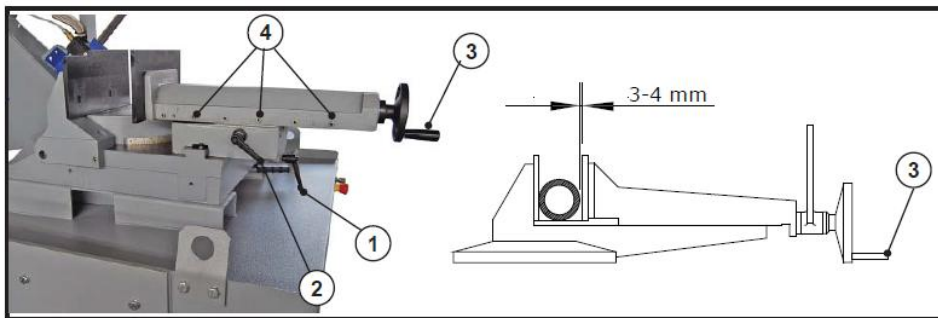

Fig. 7-11
- It is possible to move the vice quickly by pressing the Lever (2 fig. 7-11) with your left hand and pushing or pulling the vice back and forth with your right hand.
- Turn the Hand Wheel (3 Fig. 7-11) to adjust the opening of the vice leaving a distance of about 3-4 mm between the vice jaw and the workpiece to be cut.
- The vice can be positioned to the right or left of the blade. To perform positioning unlock black lever which is located under the base of the vice (1 Fig. 7-11).
- If, after time, the vice movement becomes too slack tight the screws (4 Fig. 7-11).